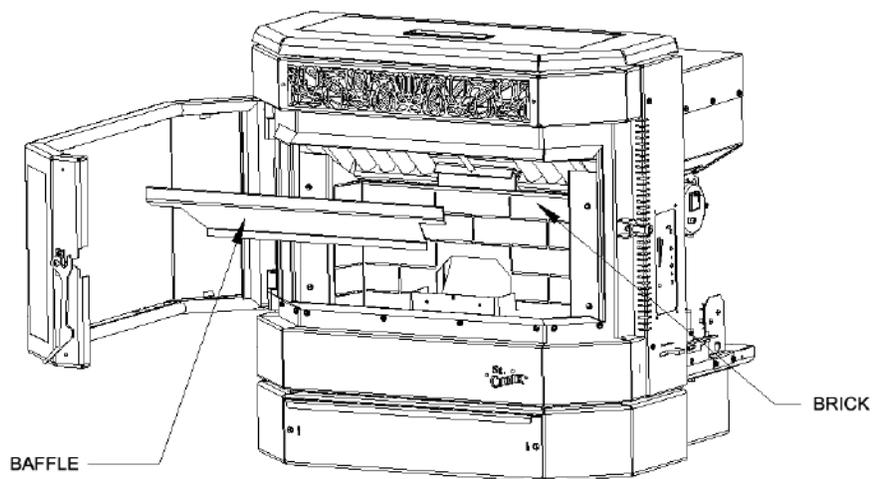

Figure 26
4. **Heat Exchange Baffle.** Remove the baffle and clean the ashes that accumulate on a regular basis. Once a month or sooner, depending on the quality of fuel being used (*See Figure 26*)